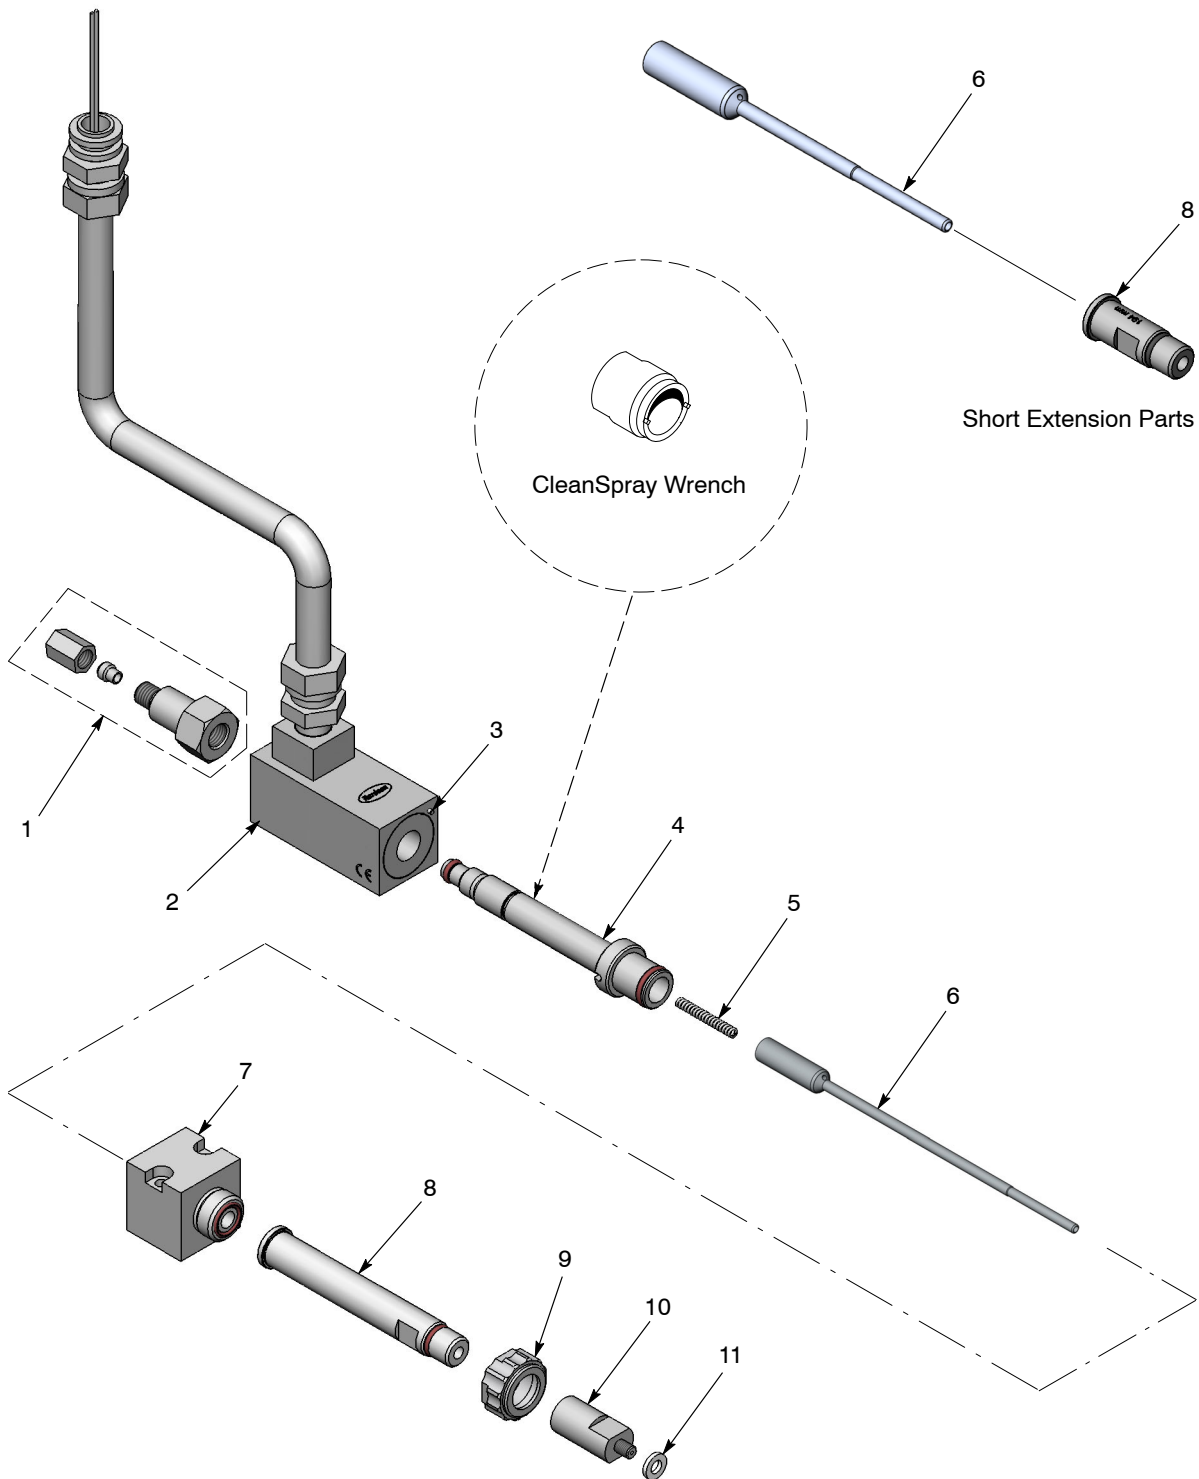

Figure 9 Repair Procedures
1. See Figure 9. Turn the CleanSpray controller OFF.
4. Unscrew the nozzle (not shown) from the seat holder (10), then unscrew the seat holder from the barrel (8). Remove the nylon washer (11) from the front of the seat holder.
5. Unscrew the nozzle nut (9). Remove the nozzle nut and barrel (8) from the body (7).
6. Remove the tubing adapter (1), then pull the body (7) and sleeve (4) assembly from the coil (2).
8. Remove the ball tip armature and spring (5) from the body.
1. See Figure 9. Slide the spring (5) inside the ball tip armature (6) and install both into the sleeve assembly (4).
2. Install the armature and sleeve assembly into the body (7). Tighten the sleeve assembly using the supplied CleanSpray wrench.
3. Insert the sleeve assembly into the coil assembly (2) and rotate the coil to the desired position. Push the coil housing and body together, making sure the coil pin (3) fits into the hole in the body.
4. Thread the tubing adapter (1) on to the sleeve assembly. Tighten the adapter securely.
5. Slide the nozzle nut (9) onto the barrel (8).
6. Slide the barrel and nozzle nut (9) over the ball tip armature (6), engaging the armature cross-pin in the barrel slot.
8. Thread the seat holder (10) onto the barrel until it bottoms out.
9. Install the nylon washer (11) onto the seat holder, then thread the nozzle (not shown) onto the seat holder.